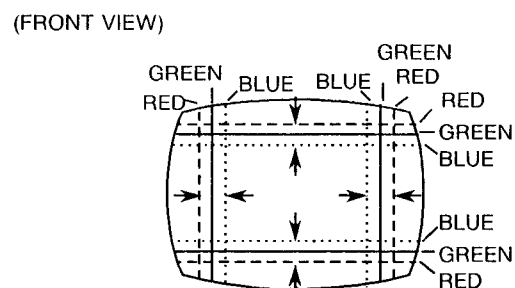

Fig. 3
6. Bring the long lug of the purity magnets on the short lug and position them horizontally. (Fig. 3)
2. Move the deflection yoke left to right and overlap the lines in the periphery. (Fig. 3)